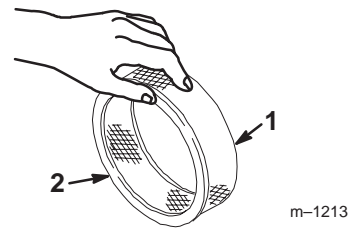

Figure 30
- Lightly tap the paper filter on a flat surface to remove dust and dirt (Fig. 30).